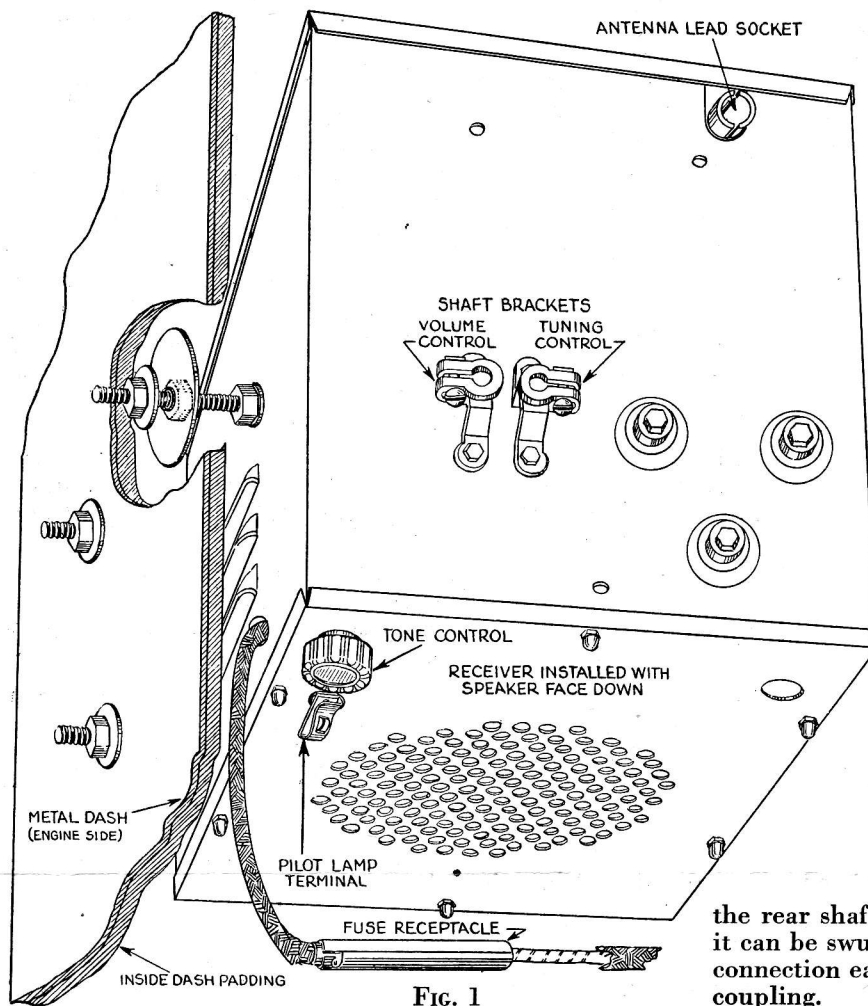
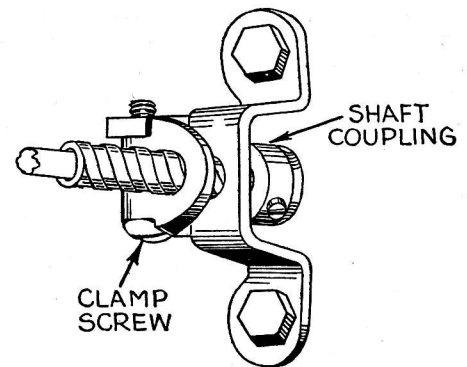

FIG. 1
FIG. 3
Whenever possible, the Receiver should be installed nearest the side the antenna lead-in comes down. When the Receiver is installed on the right side of the dash, the installation should be made as shown in Fig. 1 with the shaft at end of the Receiver
After deciding on the best location, place the cardboard template against the dash and mark the location for the three bolt holes. Then drill three  $\frac{3}{8}$ -inch holes. Screw the short end of the mounting studs into the Receiver, placing the lock washers against the housing. Put spacing nuts on the studs to allow sufficient clearance between the Receiver and the dash, so that the speaker panel can be removed easily if necessary later on. Next place the large flat washers on the studs and then push the studs through the holes in the dash. Place the small washers on the studs against the engine side of the dash and bolt up securely. (See Fig. 1.)
**BATTERY CABLE**—Insert the fuse and fuse insulator in the fuse receptacle and connect to the Receiver battery lead as shown in Fig. 1. Connect the terminal end of the lead to the battery side of the ammeter. This is important since, if connected to the apparatus or discharge side of the ammeter, additional motor interference may be encountered. When connected properly, the discharge due to the Receiver will not be indicated in the ammeter. The lead must be dressed and secured in place.
The antenna lead plugs into the socket on the end of the Receiver housing. (See Fig. 1.)
and on the shaft clamp brackets. (Shown in Fig. 1 and Fig. 3.)
**PILOT LAMP LEAD**—The black wire from the rear of the control unit must be connected to the fahnestock terminal on the bottom of the Receiver. (See Fig. 1.)
The tone control knob on the speaker panel (see Fig. 1) should be adjusted to the tone most pleasing. There are four positions, brilliant, bright, mellow and deep. Speech is clearest when in bright or brilliant, while usually orchestras will sound best on bright or mellow.